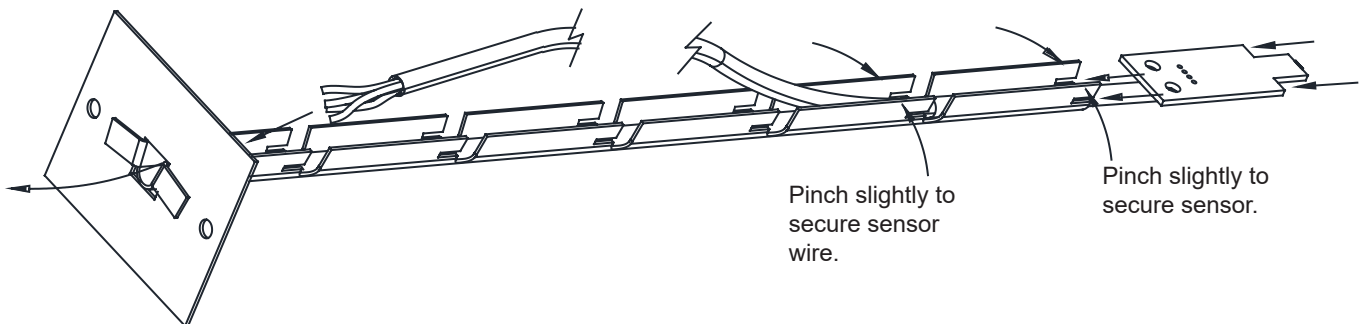

FIG. 5
2. Position sensor into slots of bracket as shown in figure 5. Once into position slightly pinch metal frame to lock into position.